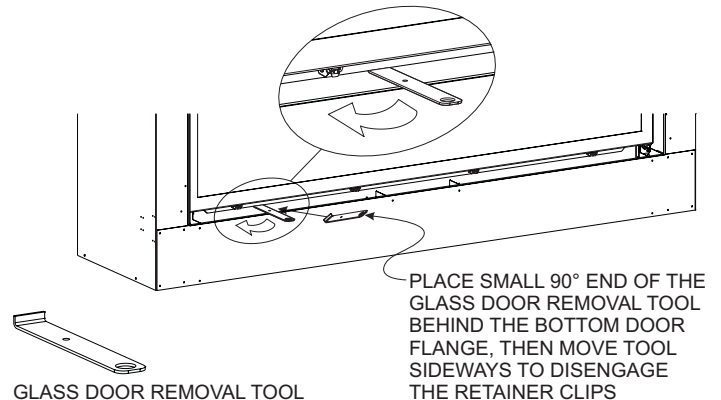

Figure 2
3. Remove the glass door using the glass door tool secured to the top of the fireplace. Using the tool as a lever, release the bottom of the glass door as shown in **Figure 2.**